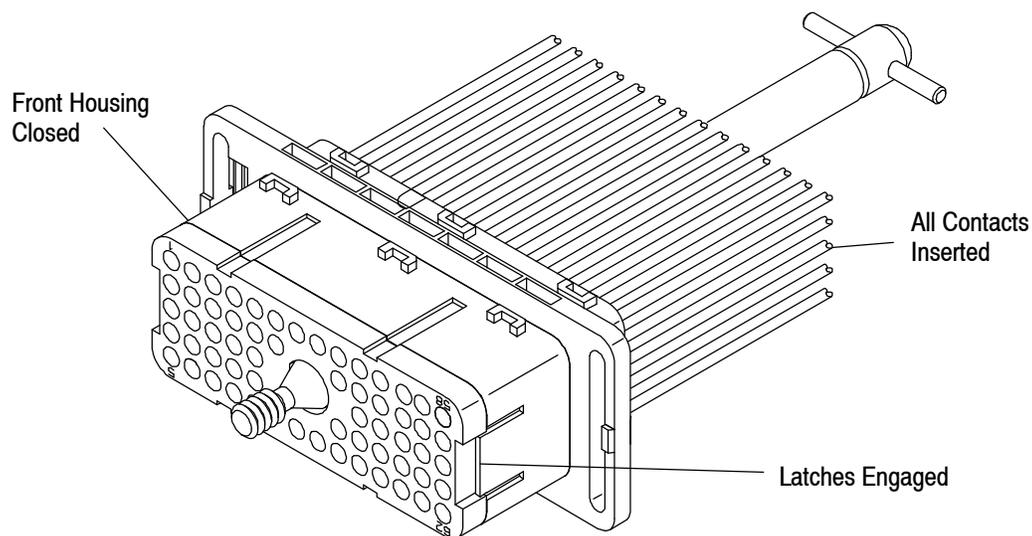

Figure 6
2. After all required contacts have been inserted, the front housing must be closed. To close the front housing, push the housing into the rear housing until the final latch engages on both ends of the connector. See Figure 6.